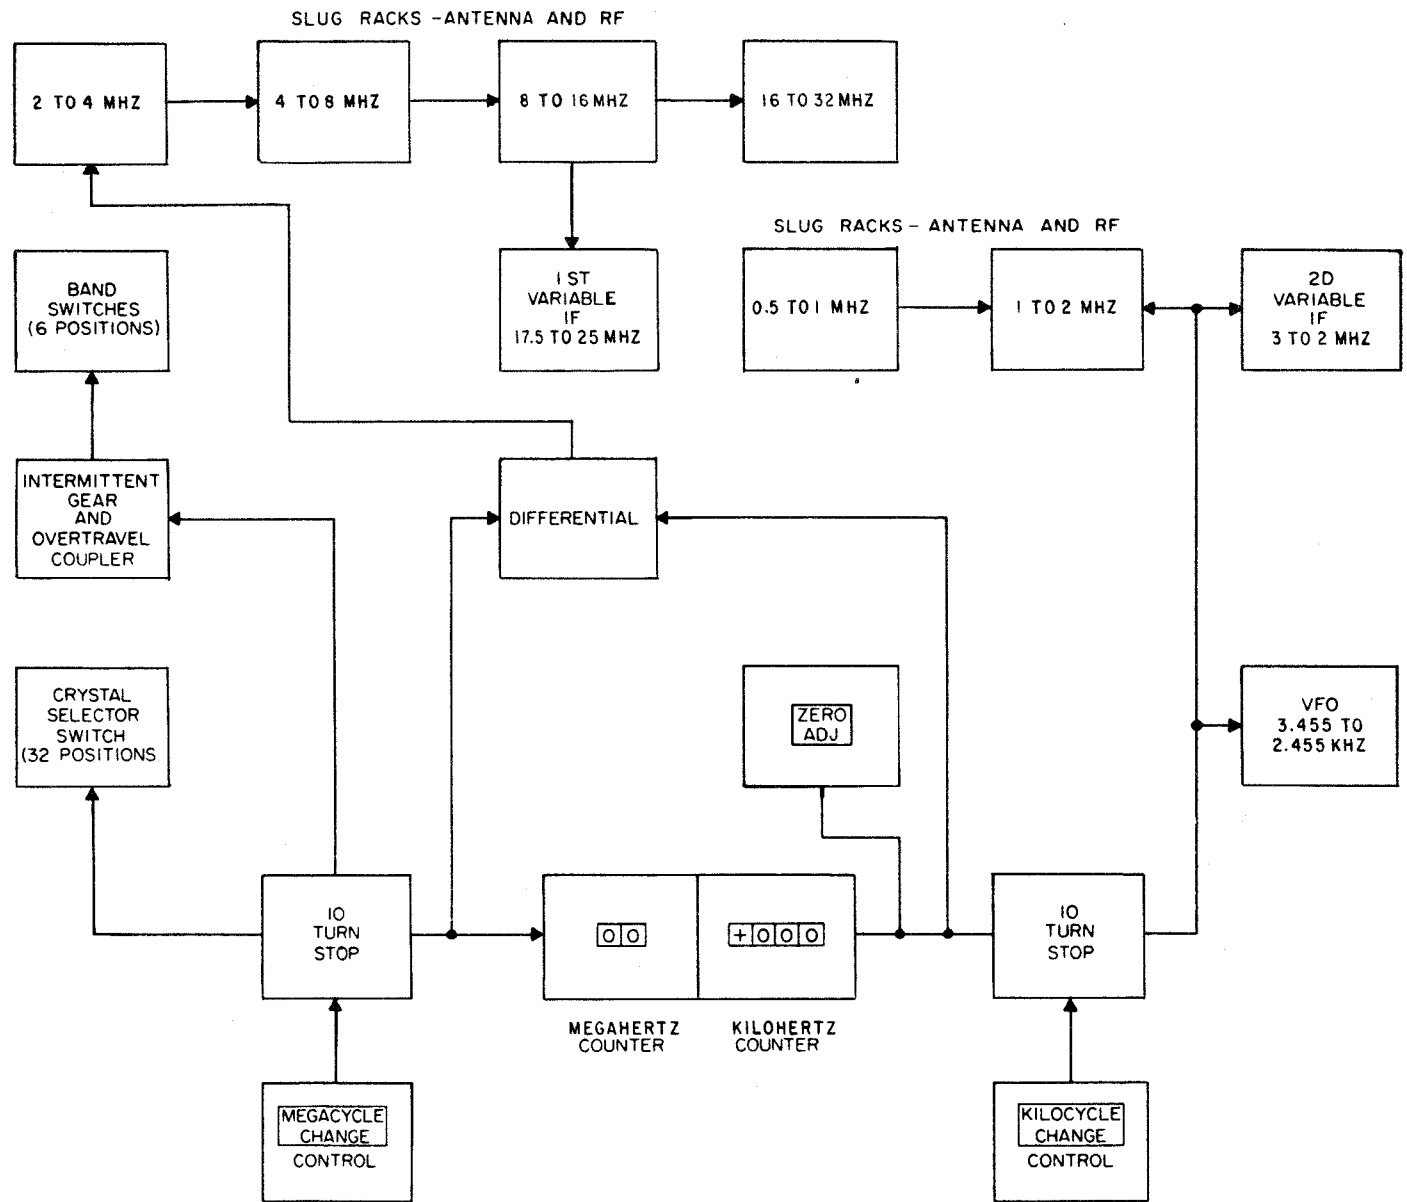

Figure 3-9. Tuning System, Mechanical Block Diagram
3.3.1 Functional Description. (See figure 3-9). The mechanical tuning system of Radio Receiver R-390A/URR controls the permeability tuning and switching to provide continuous linear tuning over a range of 0.5 to 32 MHz in 32 steps. Each step, or band of the MEGACYCLE CHANGE control (except the first band), is tuned linearly over a range of 1 MHz. The first band is tuned linearly from 0.5 to 1 MHz. Although the counter can be set between 00 000 and 00 500, no signal reception is possible within this range.